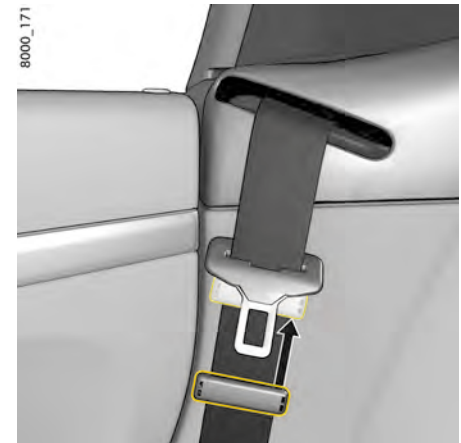

Fig. 70: Unfastening seat belts
3. Guide the belt tongue to approx. 3 inches (7 cm) below the rewinder deflection bracket and lock it with the plastic slider (Fig. 70). The function of the plastic slider is to ensure that the belt latch is easily accessible.